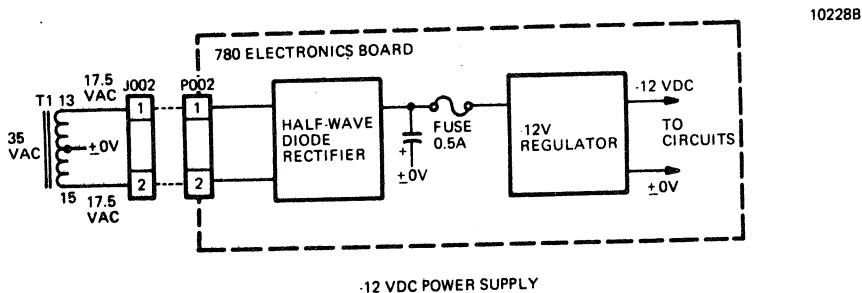

FIGURE 2-9. -12 VDC POWER SUPPLY
2.9.2 -12 VDC Regulator (Figure 2-9)